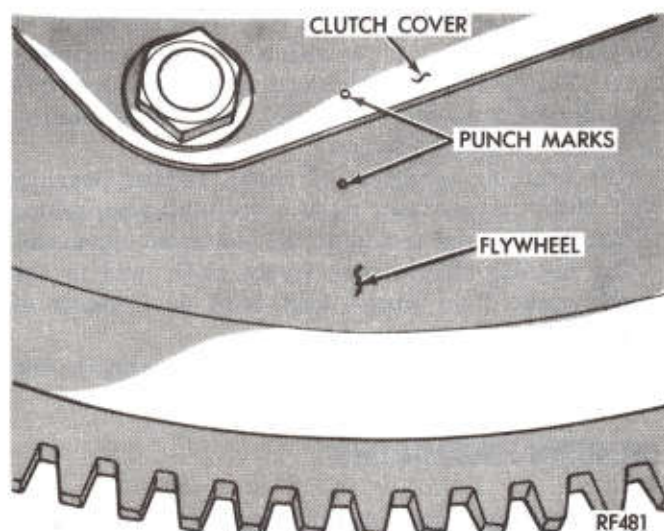

Fig. 3—Clutch and Flywheel Marking
- (3) Mark clutch cover and flywheel, to maintain their same relative positions when reinstalling clutch assembly (Fig. 3).